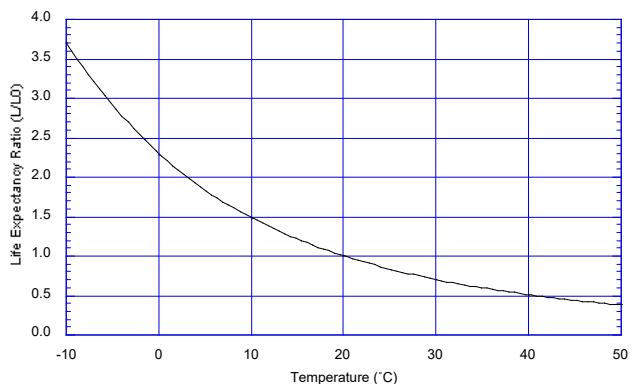

Fig. 9b - Relationship of life expectancy vs. ambient temperature (L0 = life at 20°C)
Figure 9b shows the relationship between life expectancy and ambient temperature. The Y-axis indicates the ratio of life expectancy at a given temperature (L) compared to life expectancy at 20°C (L0). A correlation exists between the sensor's life time and its storage temperature—the life time becomes shorter as the storage temperature increases.